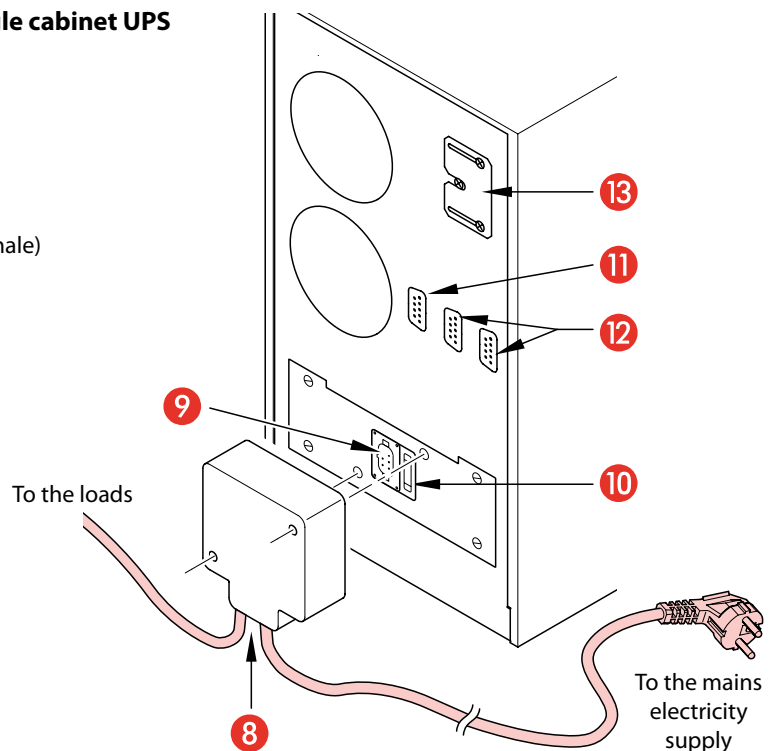

Fig.2
Single Cabinet (fig. 2):
4. Put the Input-Output connector into the plug [9] located on the rear of the UPS, and secure to its case using the screws supplied (see fig. 2).